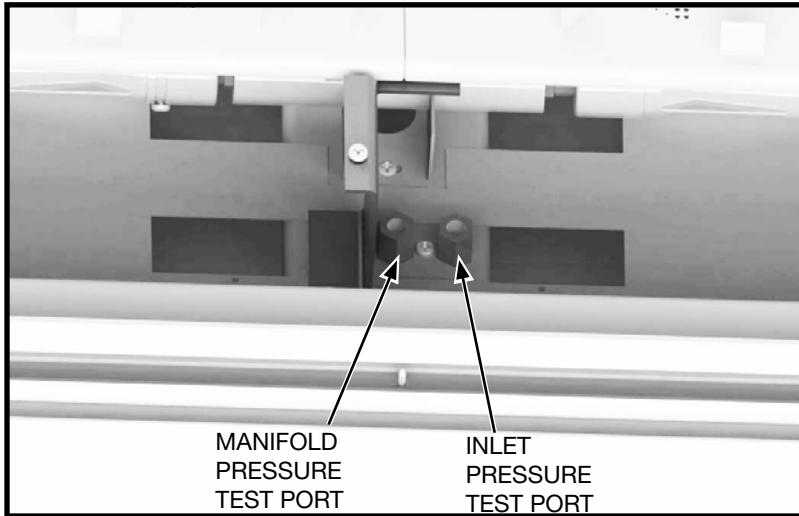

Figure 83: Pressure test ports.
2. Remove the plug from the pressure test port using a 3/16" hex key. The pressure test ports are located next to the center tray leg opposite from the pilot (Figure 83).